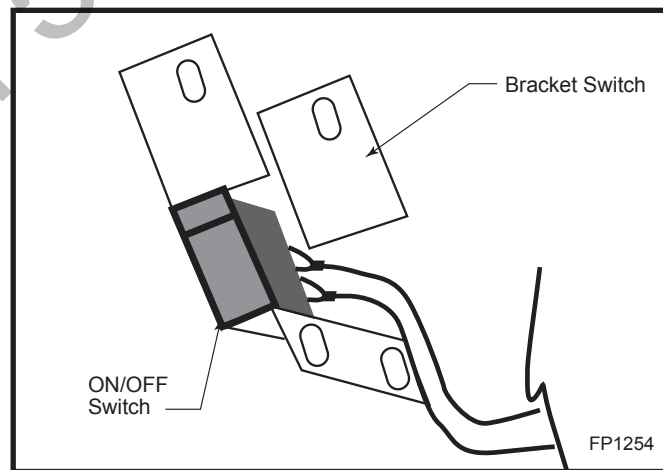

Fig. 7 For left side installation, reverse switch position in bracket.
3. For left side installation reverse switch position in bracket and repeat Step 2. (Fig. 7)